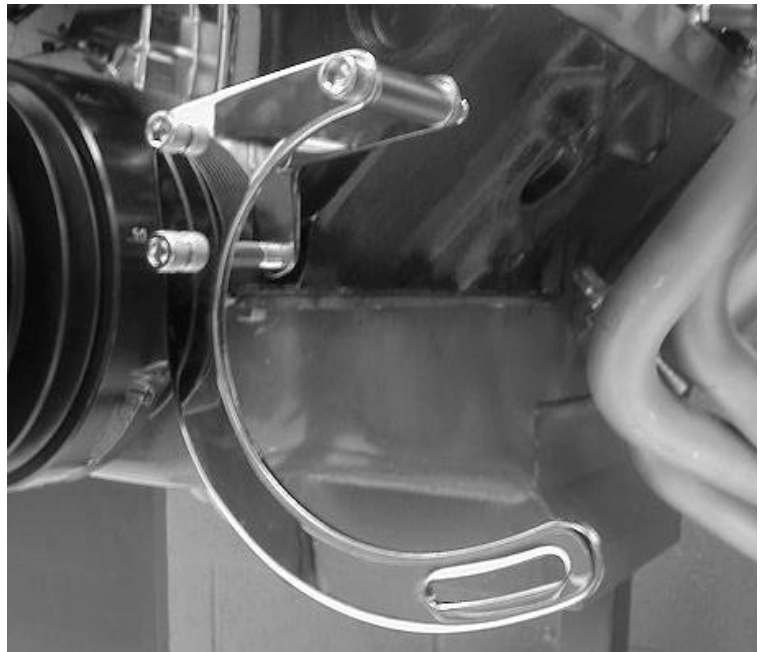

Figure 1
1. Assemble the alternator bracket, as shown in Figure 1.